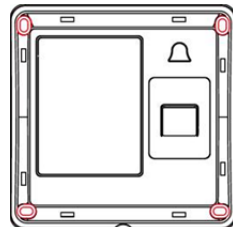

Figure 5
**2.1.4** Fit the device to the wall, screw into the wall from the corresponding position (Figure 5);